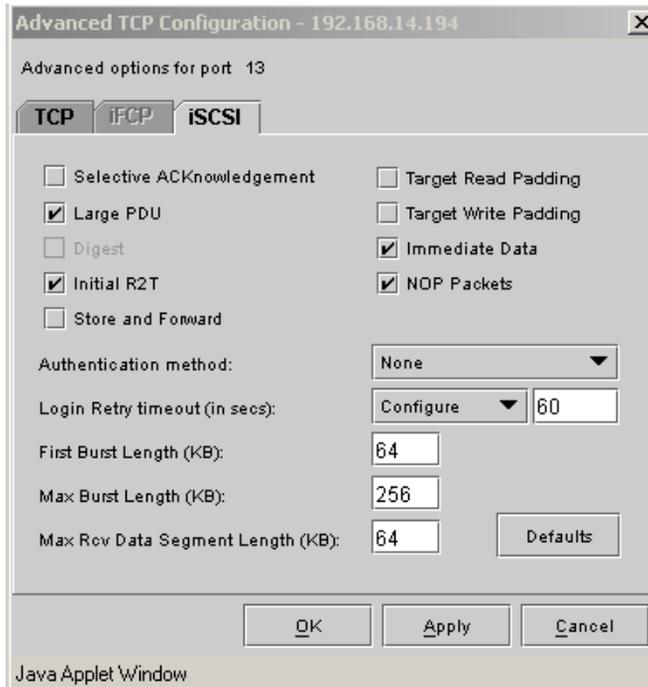

Figure 5-5 Advanced TCP Configuration iSCSI Parameters
1. Select the iSCSI tab from the *Advanced TCP Configuration* dialog box (refer to Figure 5-5) to specify the *iSCSI* parameters: